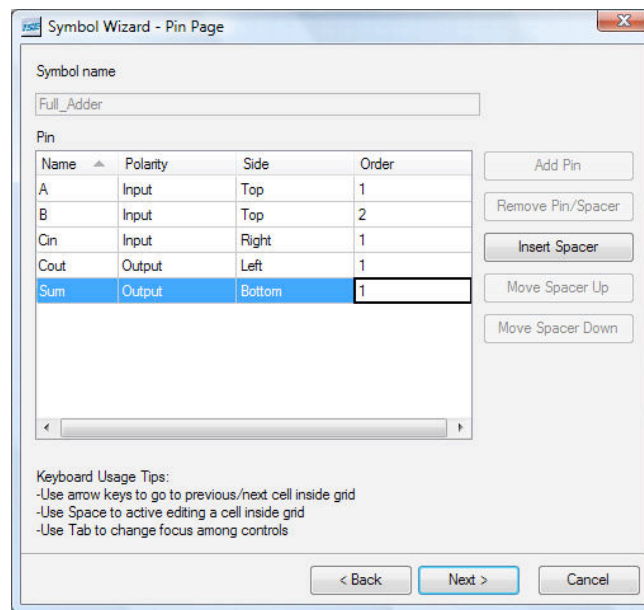

Figure 12. Configure I/O Layout for Macro
- Configure the layout of the I/O ports on the Macro as shown in Figure 12.